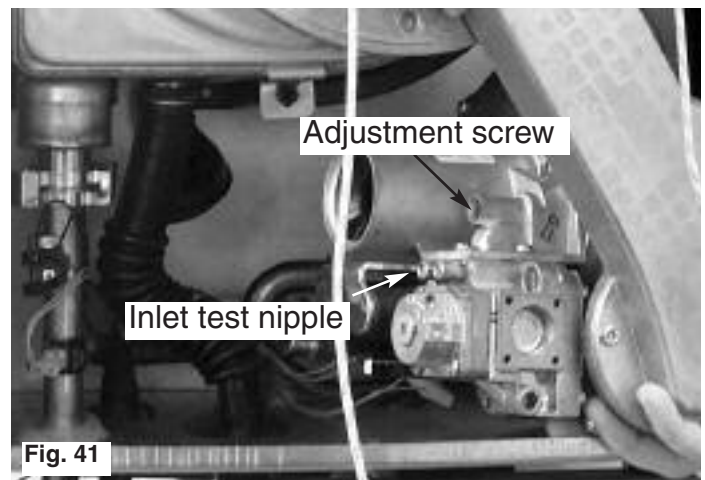

Fig. 41
2. Connect a manometer to the inlet test nipple (Fig. 41) on the gas valve, turn on the Central Heating and ensure the inlet working pressure is 20mbar. If correct proceed as follows;
7. If necessary adjust the screw on the gas valve (Fig. 41) to set the CO₂ to 8.9% +/- 0.2% (NG) or 8.9% +/- 0.2% (LPG) with the front case removed;
8. Press the setting button **-** once to set the combustion control rate mode to minimum, and, if necessary, adjust the screw on the gas valve to set the CO₂ to 9.2% +/- 0.2% (NG) or 9.7% +/- 0.2% (LPG) with the front case removed;
9. Press the setting button **+** again to set the combustion rate control mode to maximum and if necessary adjust the screw on the gas valve to set the CO₂ to 8.9% +/- 0.2% (NG) or 9.7% +/- 0.2% (LPG) with the front case removed;